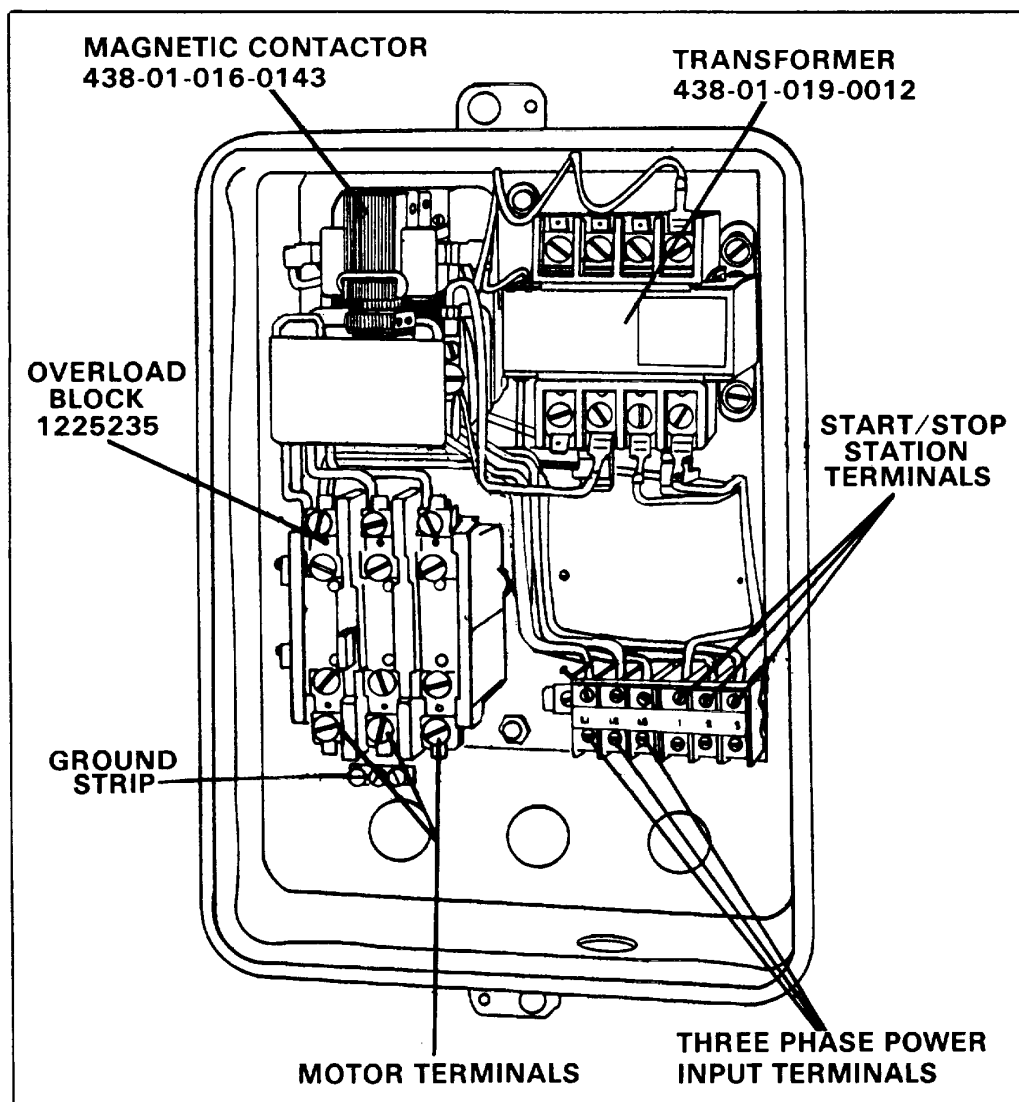

Fig. 22. - Standard Three Phase Motor Starter No. 52-541
Fig.22 illustrates the standard three phase LVC motor starter, Part No. 52-541.
The three phase starter consists of four basic components: (1) overload block with heaters, (2) magnetic contactor, (3) transformer, (4) start/stop station. The start/stop station is not shown in Fig.22. Neither are the input connections from the start/stop station and the input connections from the three phase motor or power supply.
The only difference between the 575 volt three phase LVC starter and the standard three phase starter, shown in Fig. 22, is the control transformer.
The control transformer in the standard three phase starter, shown in Fig. 22, has a multi-tapped primary which enables the starter to be used from either a 115, 200, 230, 400 or 460 volt three phase power system. In the special 575 volt three phase starter, the control transformer has a 575 volt primary so that the starter will only function from a 575 volt three phase power system.